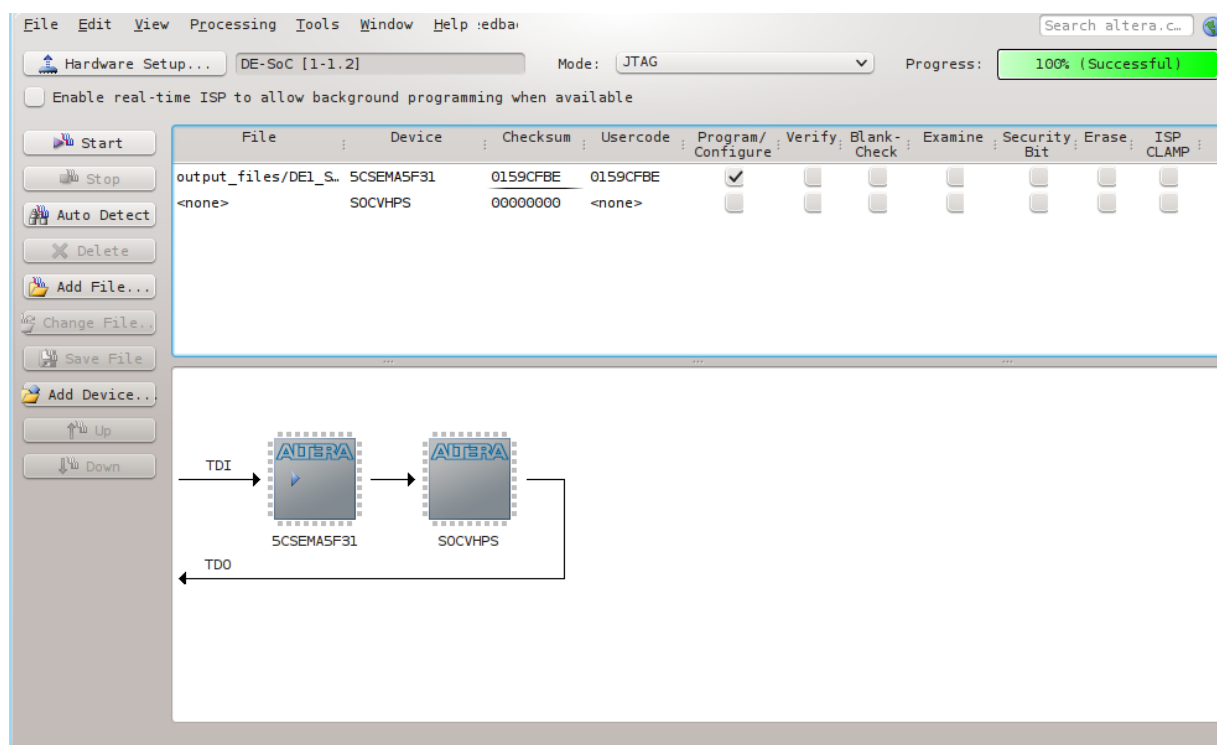

Figure 7-18. Programming the FPGA
38. Enable the “Program/Configure” checkbox for device “5CSEMA5F31”, then press the “Start” button, as shown in Figure 7-18.